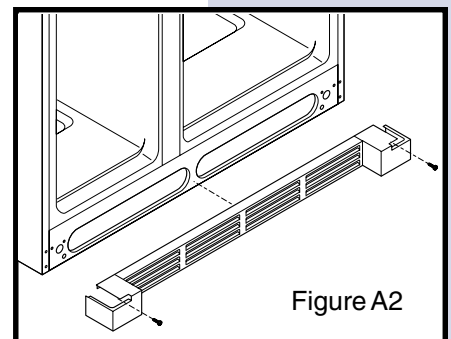

Figure A2
2. Remove toe grill by removing two screws and pulling it straight out. (See Figure A2.)